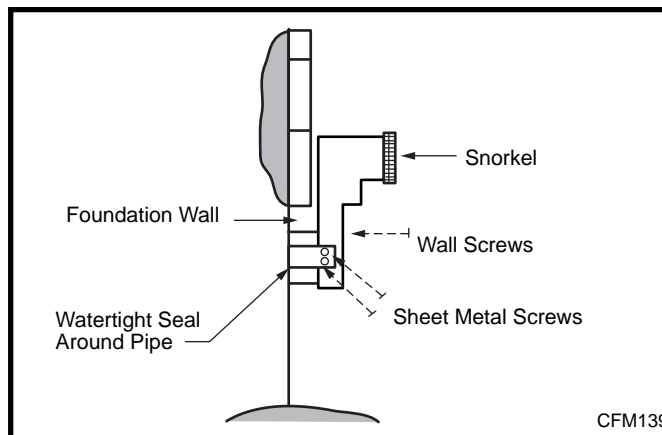

Fig. 29 Snorkel installation / recessed foundation.
7. Level the soil so as to maintain a 4" (102mm) clearance below snorkel. (Fig. 29)
If the foundation is recessed, use recess brackets (not supplied) for securing lower portion of the snorkel. Fasten brackets to wall first, then secure to snorkel with self drilling #8 x 1/2 sheetmetal screws. It will be necessary to extend vent pipes out as far as protruding wall face. (Fig. 29)